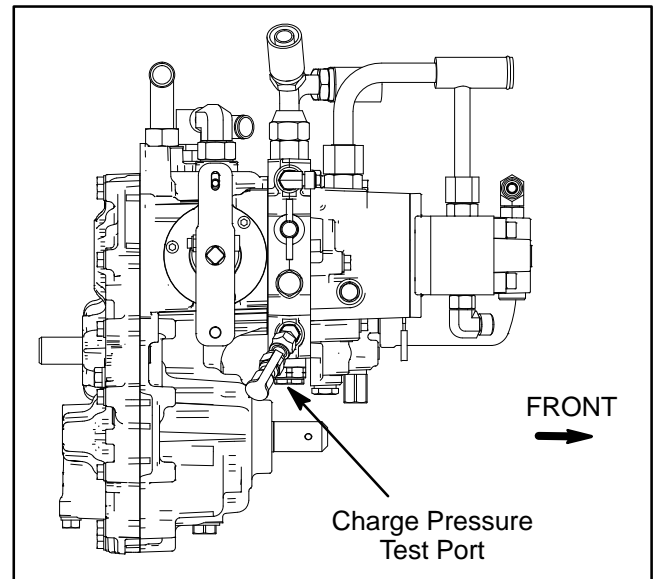

Figure 27
5. Thoroughly clean charge pressure test port on right side of transmission (Fig. 27). Connect a 1000 PSI (70 bar) pressure gauge with an attached hydraulic hose to the transmission charge pressure test port.